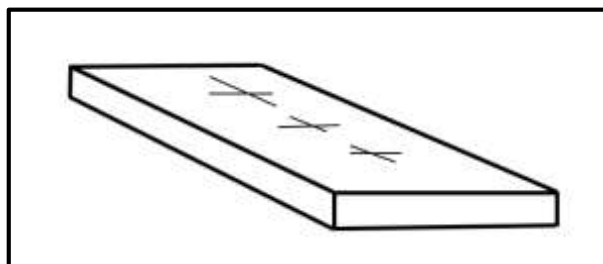

FIGURE 4.4
- 4.4 Identify the template shown in FIGURE 4.4 below.